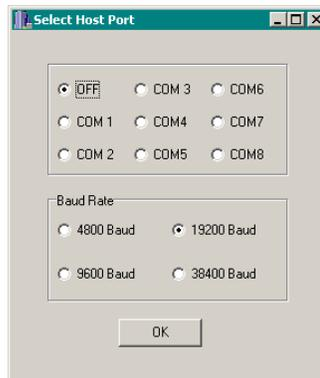

Figure 2. COM Port and baud rate window
6. Click the yellow **Select COM Port** button. A pop-up window (Figure 2) will appear that allows you to select the COM port and the baud rate for meter-PC communication.